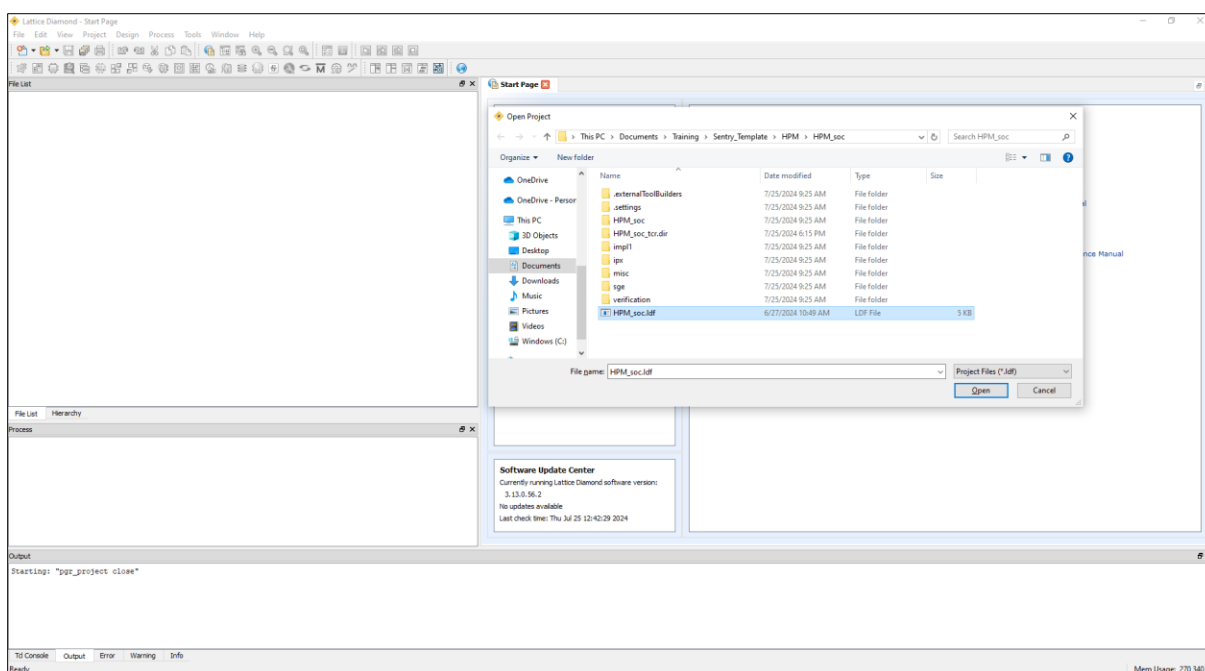

Figure 5.11. Open HPM_soc in the Lattice Diamond Software
- Open the HPM_soc project file (HPM_soc.ldf) in the Lattice Diamond software (Figure 5.11).